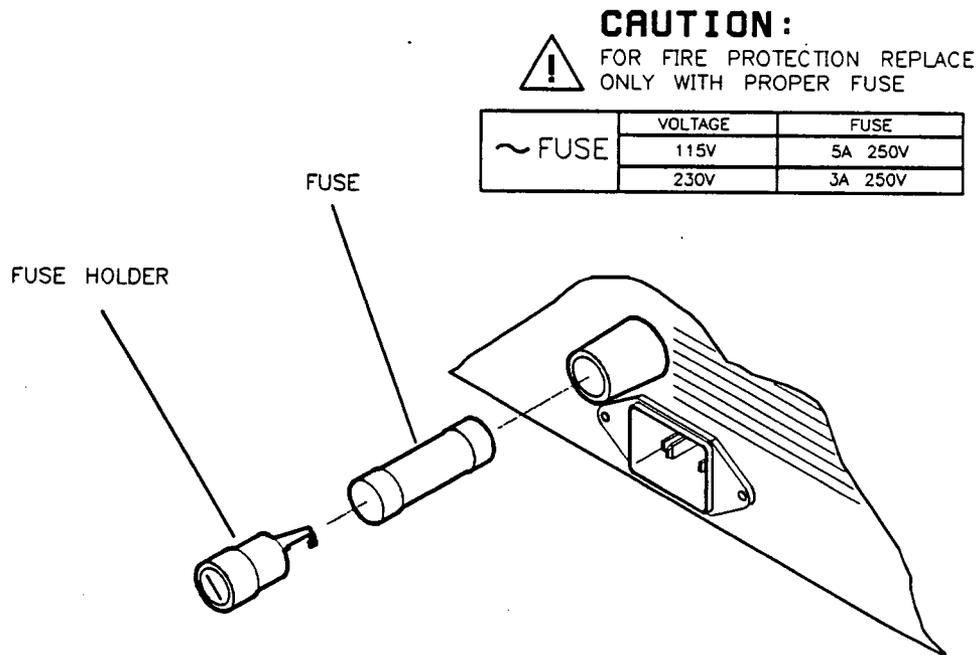

Figure 10-2. Replacing the Line Fuse
3. Refer to Figure 10-2. Using a small flat-blade screwdriver, rotate the fuse cap counterclockwise, and remove the fuse holder.